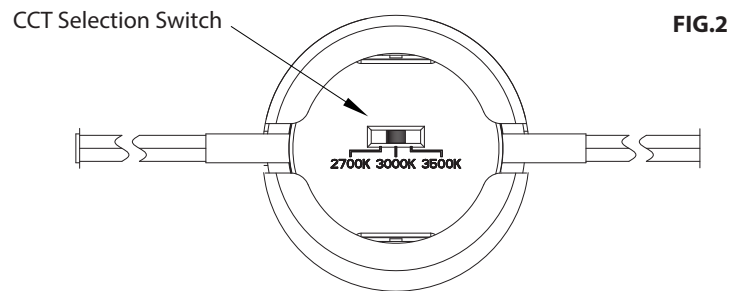
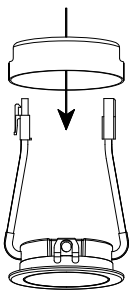

FIG.3
FIG.4
SURFACE MOUNTING (FIG.3, FIG.4, FIG. 5)
1. Push on the back side of each fixture to remove the trims from the housings (FIG. 3).
2. Mount the housings at the desired installation locations (FIG 4). **Note:** Please refer to the cable lengths on Page 1 when determining housing locations. Plan accordingly to make sure lead cables are long enough to reach next puck light.
RECESSED MOUNTING (FIG.3, FIG.6, FIG. 7)